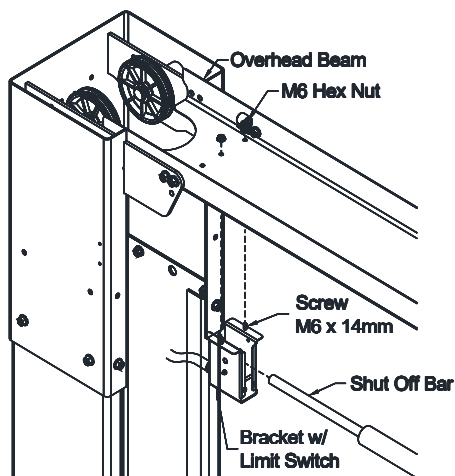

Fig. 9a – Overhead Limit Switch Power Side
- 21) Install overhead limit switch to the overhead beam using the rear set of holes on the power side of the lift. **Fig. 9a.**